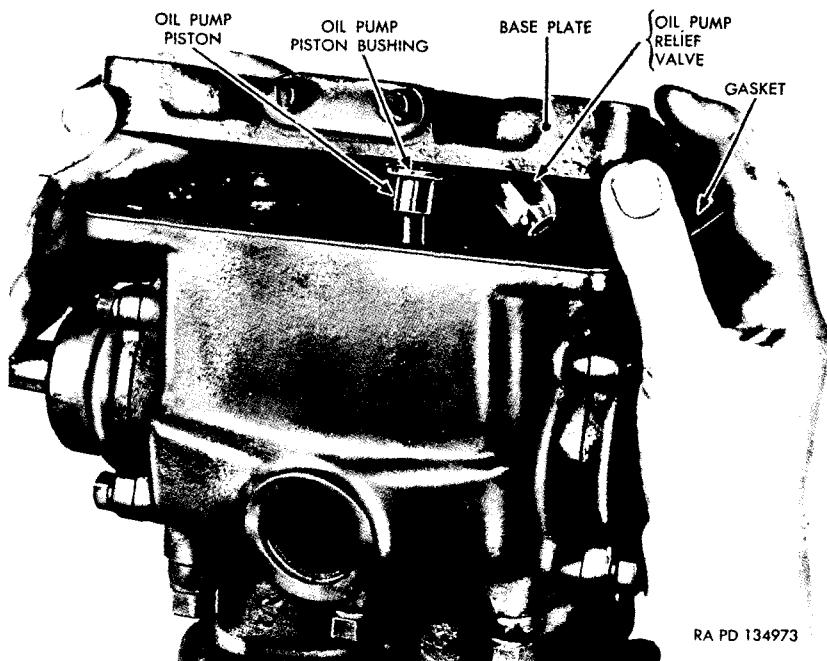

Figure 52. *Installing base plate (self-lubricating compressors only).*
(2) Position base plate assembly on bottom of the crankcase, being sure the oil pump piston engages the oil pump piston bushing in the base plate (fig. 52), and install dowel screw at end of base plate. Install remaining attaching machine screws and tighten securely.